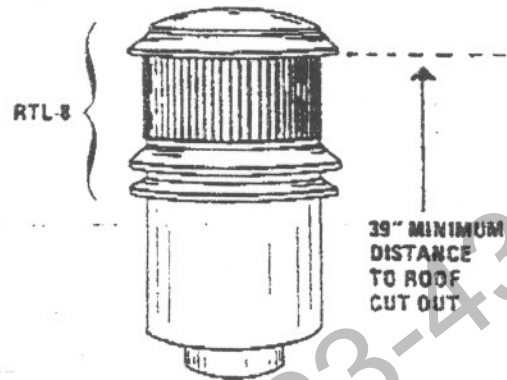

Figure 13
Step 11 Install round top by sliding adaptor brackets over outside wall of triple-wall pipe and rotating until holes are lined up. Attach with three screws provided. Install rain cap by lining up brackets with adaptor brackets and attaching with three screws provided. Install rain collar as shown in Figure 13 using four screws provided.